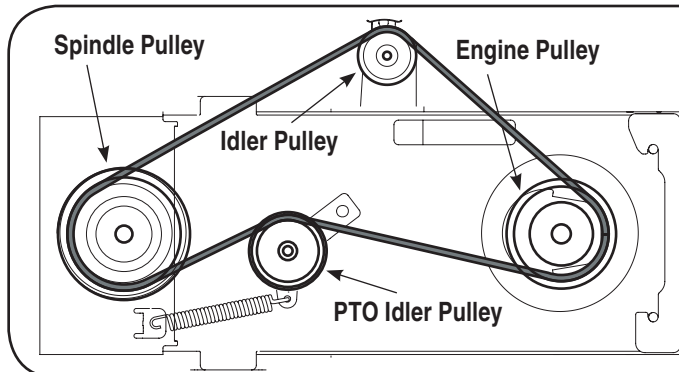

Figure 29
1. Attach and route the upper drive belt around the spindle pulley and idler pulley found on the undercarriage, the electric PTO clutch and the PTO idler pulley as illustrated in Figure 29. Make sure that the belt is routed to the INSIDE of the belt keeper on the undercarriage idler pulley and the remaining keeper pins found around the spindle pulley.